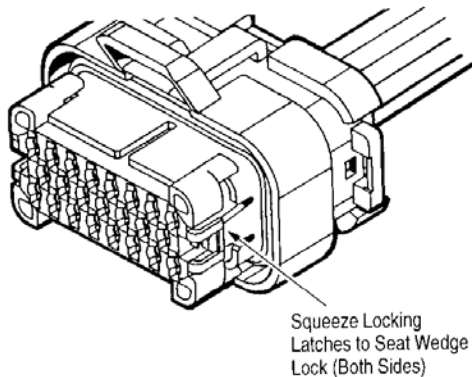

Figure 3
3. After all required contacts have been inserted, the wedge lock must be closed to its **locked** position. Release the locking latches by squeezing them inward (see Figure 3).